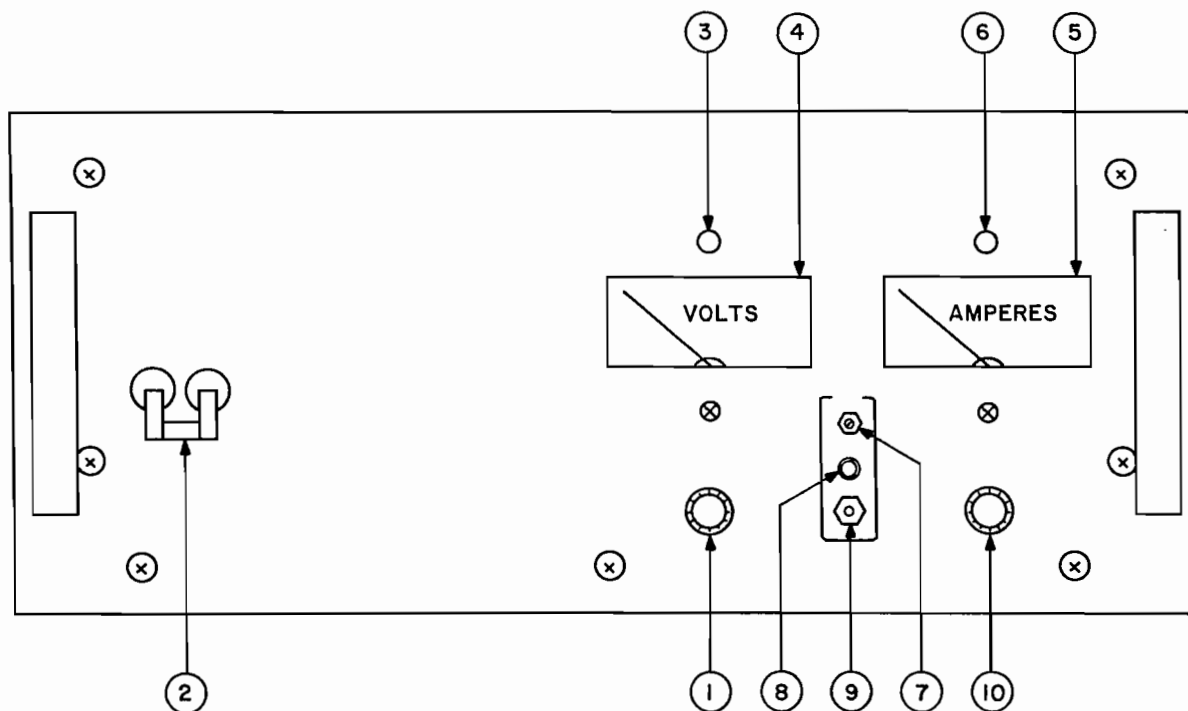

FIG. 2-2 CONTROLS AND TERMINATIONS, ATE FULL RACK GROUP, FRONT.
- a) FRONT PANEL: Refer to FIG. 2-2 and Table 2-2.
- 2-9 A simple operating check after unpacking and before permanent installation is advisable to ascertain whether the power supply has suffered damage resulting from shipment. Refer to FIG. 2-2 and to FIG. 2-3 for the location of the operating controls and output terminals.
- To reset the adjusted crowbar point, press DISARM button again and advance VOLTAGE CONTROL clockwise. Note voltage at which the CROWBAR INDICATOR lights up. Readjust LEVEL control if necessary, by repeating step (2) and check again by repeating steps (3) and (4).